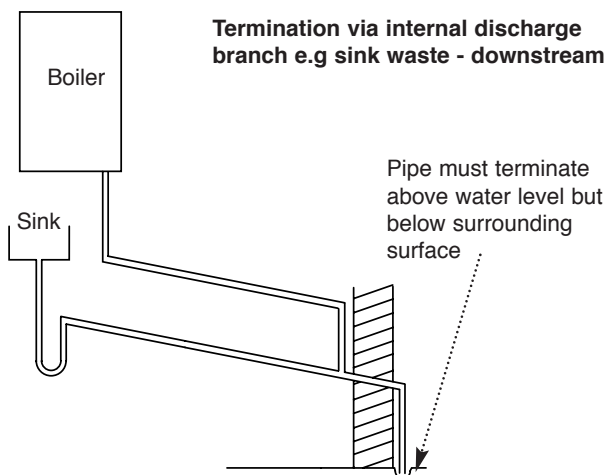

Fig. 4
- i) via an internal discharge branch (e.g. sink waste) - Fig. 4.